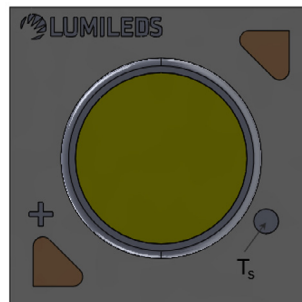

Figure 4. T_s point of LUXEON CX Plus CoB. The tip of TC wire is secured here.
To calculate the average LUXEON CoB junction temperature, use a small gauge (AWG 40 or AWG 36) thermocouple (TC) wire and attach it to the T_s point as shown in Figure 4. Note that T_s location and value are identical to t_c as defined in IEC 62031 standard. A recommended thermal adhesive glue such as Artic Silver AATA-5G (two component epoxy) is used to secure the TC wire to the T_s point. Apply sufficient amount of adhesive to hold the TC wire in place but not excessive to allow proper attachment of the CoB holder. Note that to route the TC wire to the outside of the holder, a small modification to the holder may need to be made first (Figure 5). Power-up the LED module system under the desired operating condition and installation setup, allow enough time for the system to reach thermal equilibrium and record the max T_s temperature.